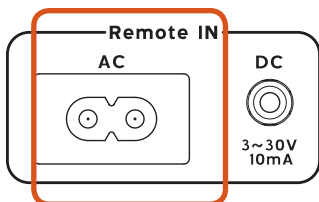

Fig. 2a
- A. Plug the C8 (Fig. 8 - female) end of the included Remote AC Control Cable into the "Remote AC IN" socket located on the back of the Power Console. (Fig. 2a)